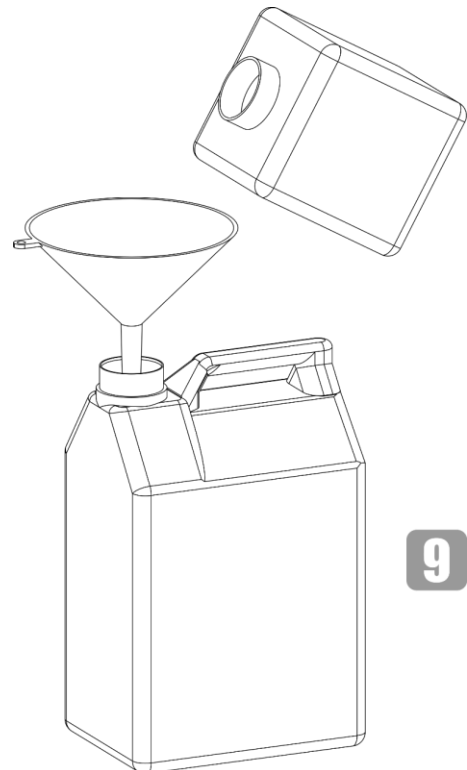

Fig. 28
- 09) Use a funnel to pour the fog fluid from the tank into original fog fluid jerry can, as shown in Fig. 28.